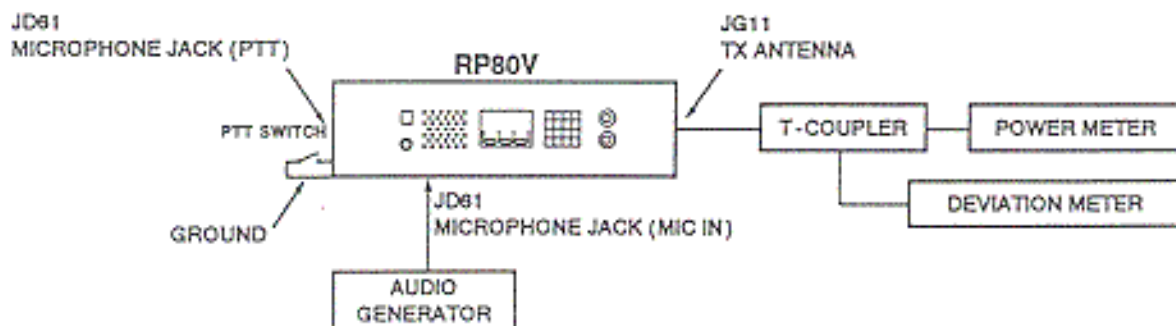

Figure 6-4 Microphone deviation alignment
- Connect the measuring instruments as shown in Figure 6-4.
- Supply a 1 kHz 5 mV signal from the audio generator (AG) through a 10 μ F/16 V electrolytic capacitor to the MIC IN pin (pin 1) of the microphone jack (JD61).